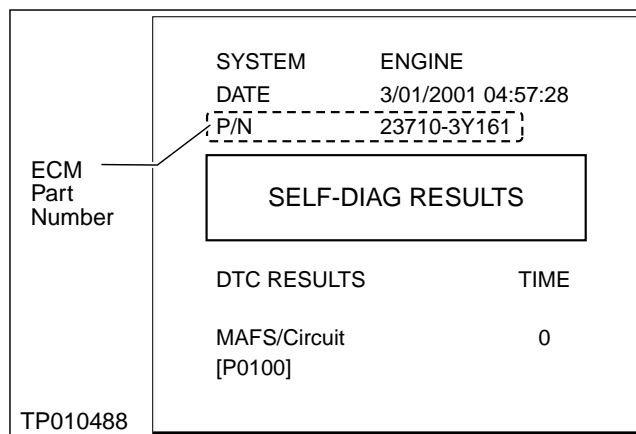

Figure 3
5. Determine the vehicle's ECM Part Number. The ECM P/N is found on top of the CONSULT-II self-diagnosis printout (see Figure 3), or by CONSULT ECM P/N Selection.